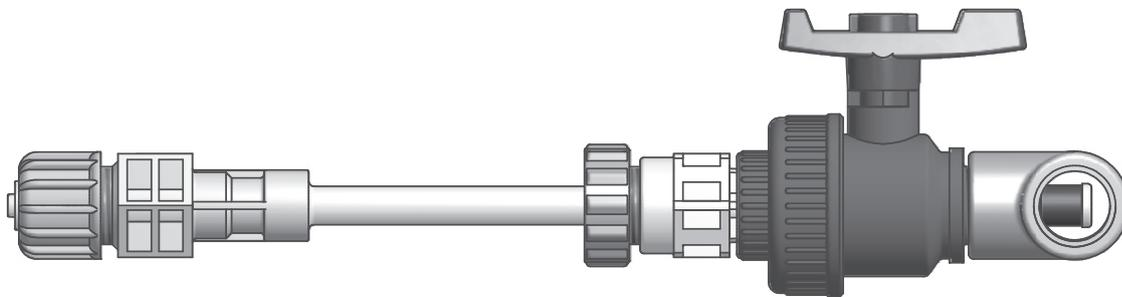

FIG. 2.
- - Open the tap and push the lance body all the way down until the "T" fitting is inserted halfway up (Figure 2).
- - Firmly tighten the ring on the nut as shown in Figure 2 to prevent the lance from being expelled by the water pressure.